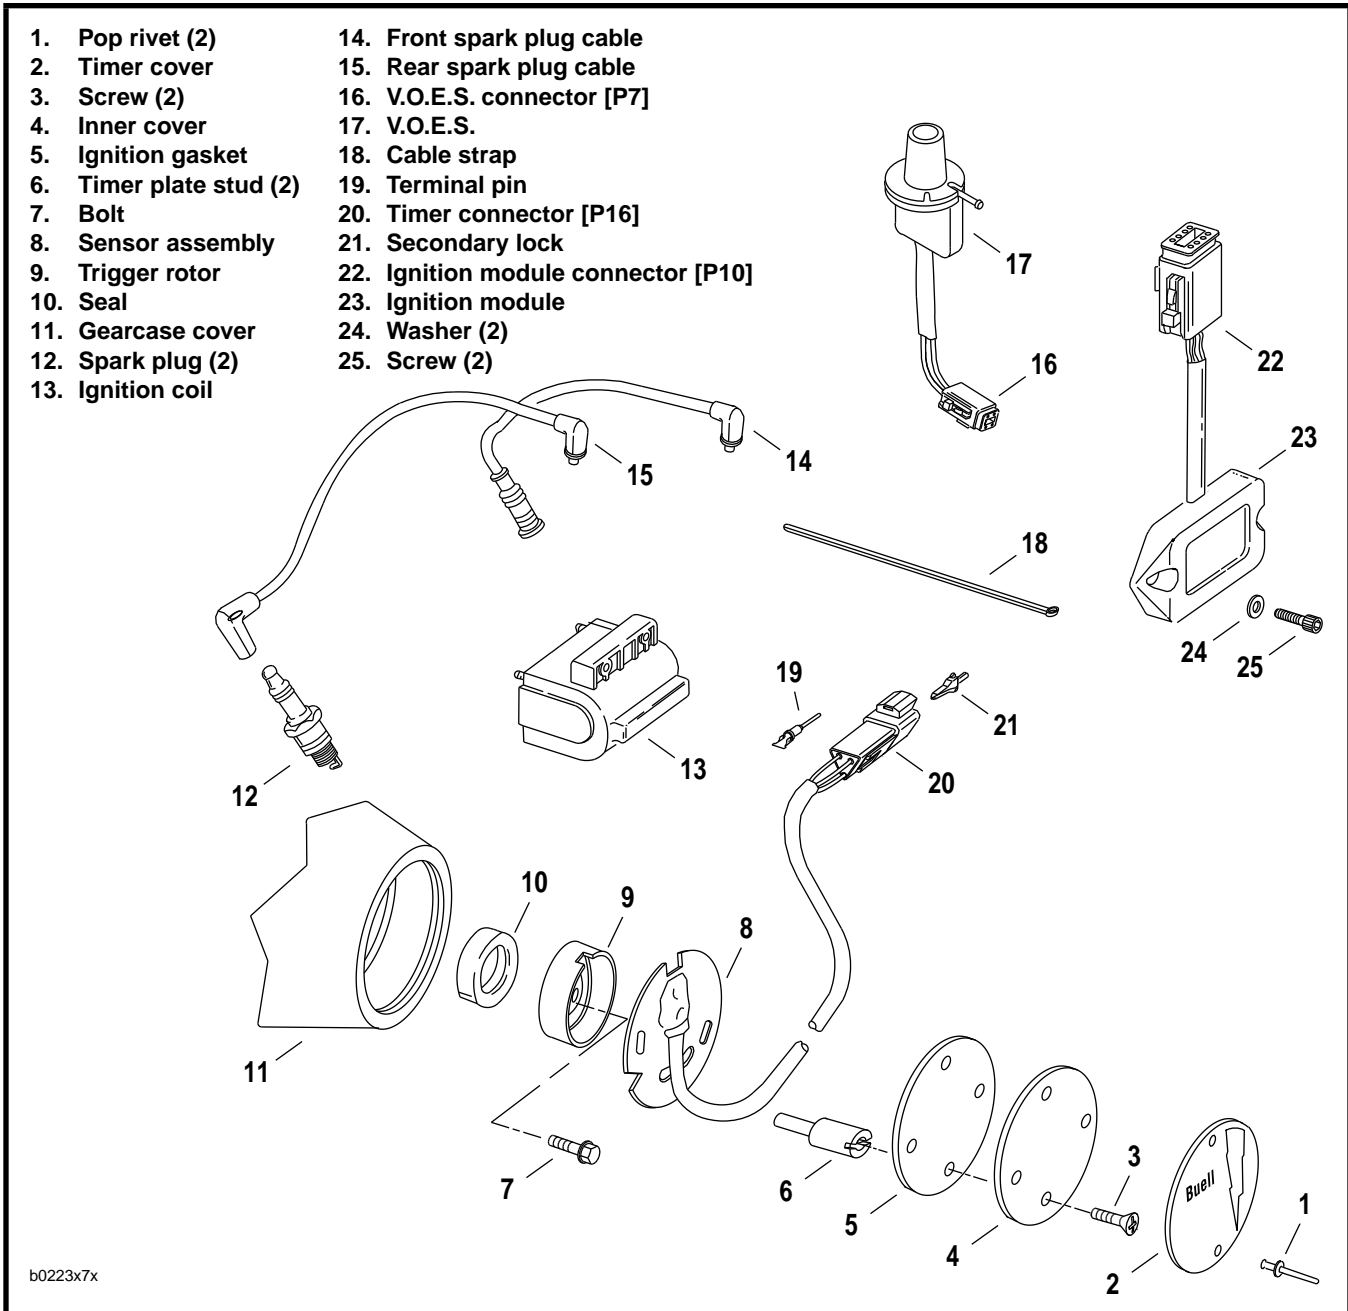
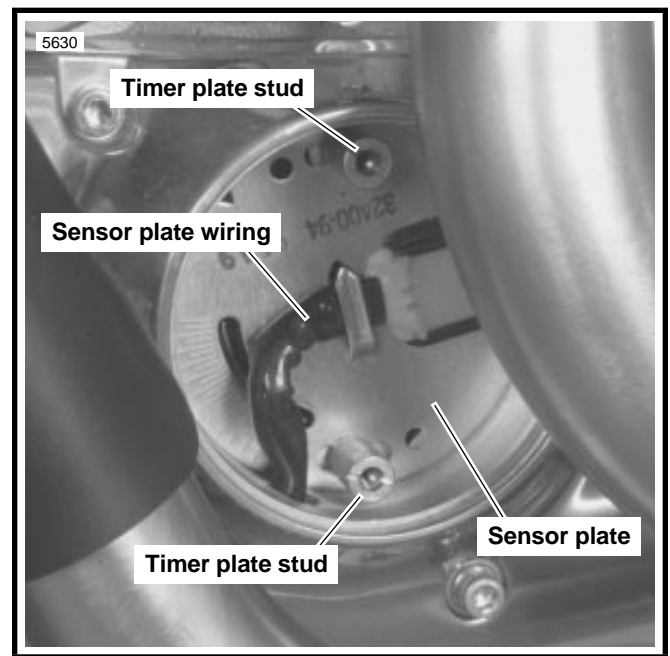

Figure 7-9. Ignition Components
Figure 7-10. Marking Ignition Timing
See Figure 7-9. The ignition sensor plate assembly (8) and trigger rotor (9) are located in the gearcase cover (11) on the right side of the vehicle. The rotor is mounted on the camshaft and operates at one-half crankshaft speed. The sensor plate wiring is connected to the ignition module (23) wiring harness. See **IGNITION SYSTEM** on page 7-3 for information on the function, testing and adjustment of the ignition sensor plate and trigger rotor assembly.
4. See Figure 7-9. Disconnect sensor plate (8) wiring at connector (20) [P16] located below the starter motor.
5. Note position of each sensor plate wiring terminal in plug end of connector (20).
7. Drill off heads of outer timer cover pop rivets (1) using a 3/8 in. (9.525 mm) drill bit. Tap remaining rivet shafts inboard through holes in timer cover (2) and inner cover (4). Remove timer cover.
8. Remove inner cover screws (3), inner cover (4) and ignition gasket (5). Carefully remove any remaining pieces of rivets from gearcase cover timer bore.
9. See Figure 7-10. To obtain approximate ignition timing during installation, mark position of timer plate studs on sensor plate.
10. See Figure 7-9. Remove timer plate studs. Carefully remove sensor plate. Remove bolt (7) and trigger rotor (9).
11. Carefully remove camshaft oil seal (10) if damaged or if there is any evidence of oil leakage past the seal.
1. See Figure 7-9. With the lipped side facing inboard, install **new** camshaft oil seal (10) into gearcase cover (11), if removed. Press seal into position until flush with surface of timer bore.
2. Position trigger rotor (9) onto end of camshaft aligning notch with camshaft slot. Apply **LOCTITE THREAD-LOCKER 242** (blue) to bolt (7). Install bolt to secure rotor. Tighten bolt to **75-80 in-lbs** (8.5-9.0 Nm).
3. Install sensor plate (8) and timer plate studs (6). Rotate sensor plate to its previously marked position to obtain approximate ignition timing.
See Figure 7-9. The ignition coil (13) is a pulse-type transformer. Internally, the coil consists of primary and secondary windings with a laminated iron core. The contents are sealed in a waterproof insulating compound. The ignition coil is not repairable. Replace the unit if it fails.